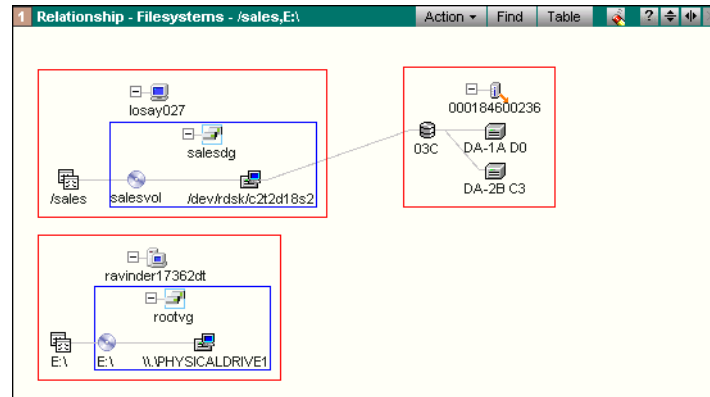

Figure 12-3 Viewing Relationships (Map)
4. In the tree panel, double-click a host of another type, for example, a UNIX host. The relationships for that host appear in the same view as the first host (Figure 12-3).